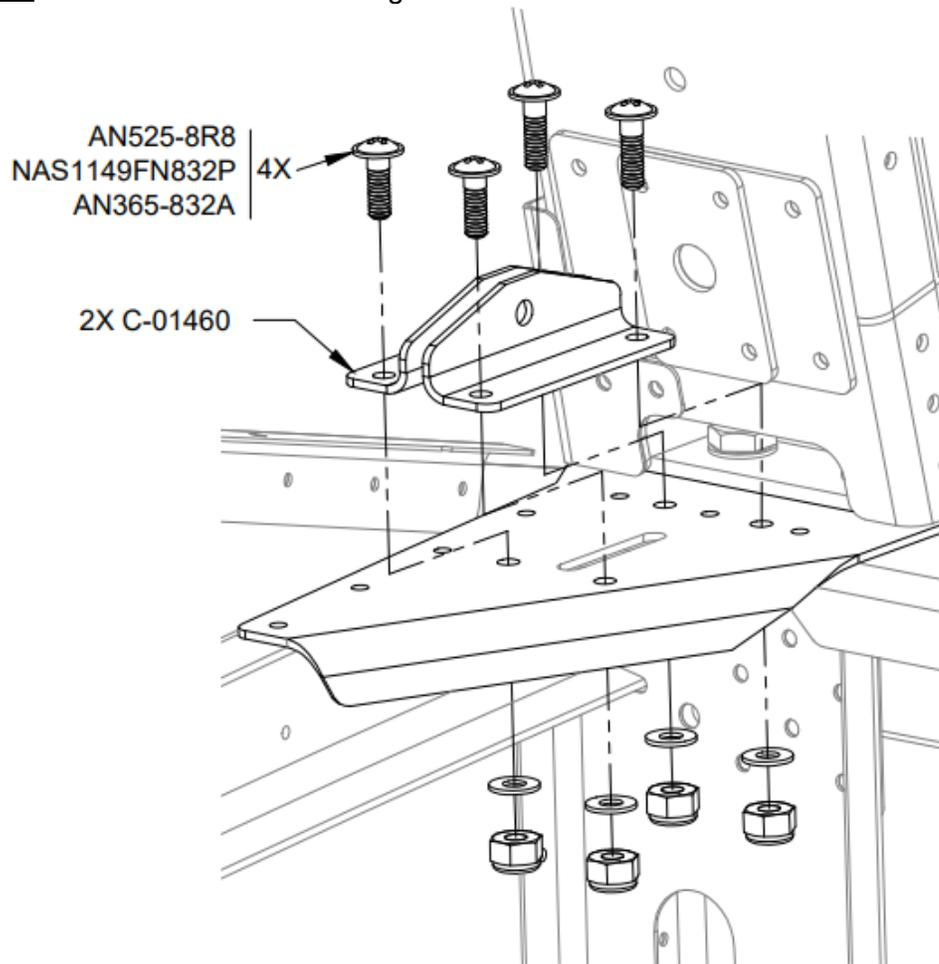

FIGURE 11: ATTACH BELLCRANK ANGLES
Step 11: Attach 2X C-01460. See Figure 11.